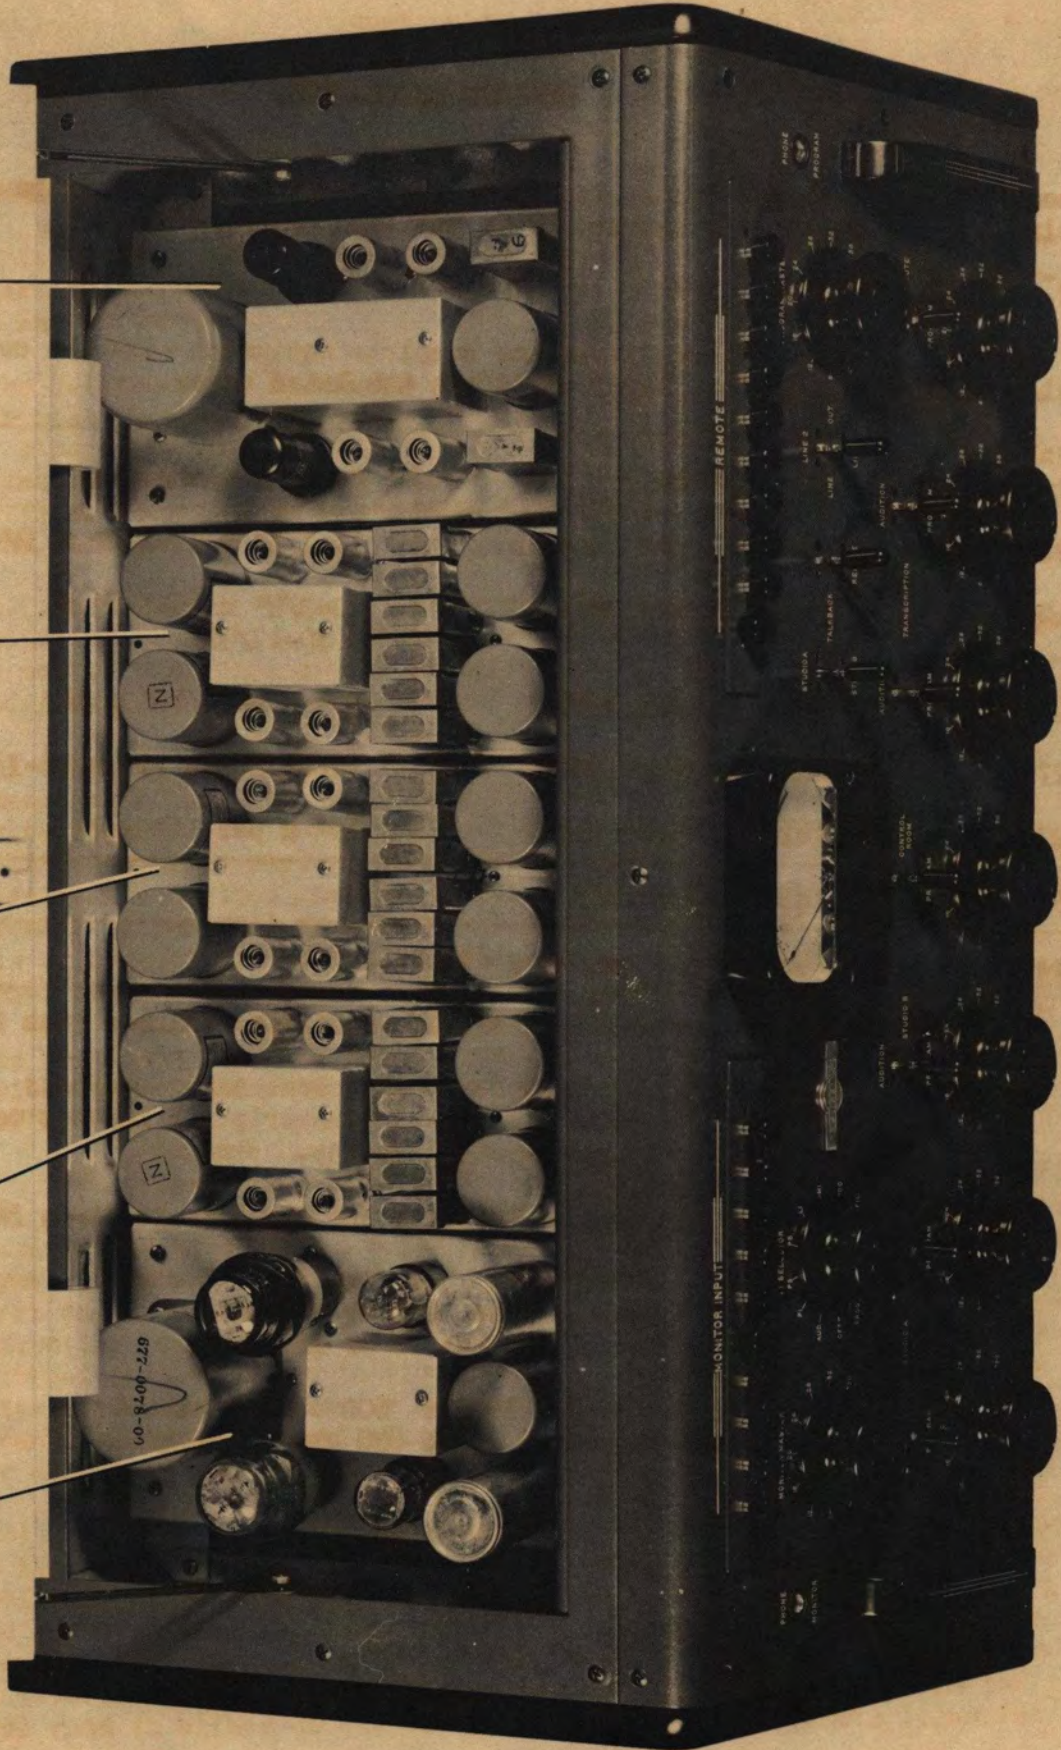

Figure 1-2 Type 212B Console, Top Open
(1) The console cabinet is constructed of heavy gauge aluminum in accordance with the best principles of advanced styling and modern engineering design. The panel controls are positioned from both the viewpoint of dynamic styling and physical convenience. Fingertip switching permits the desired combination of circuits to be set up. A tilting arrangement allows full access to all components and wiring, while the unit is in operation. Housed in this unit are five subchassis; three type 6Q-1 preamplifier assemblies, a type 6N-1 program line amplifier and a type 6V-1 monitor amplifier. Refer to figures 1-2 and 1-3. Each sub chassis is mounted on four shear type rubber shockmounts. All external electrical connections are made at a screw type terminal strip at the base of the unit.